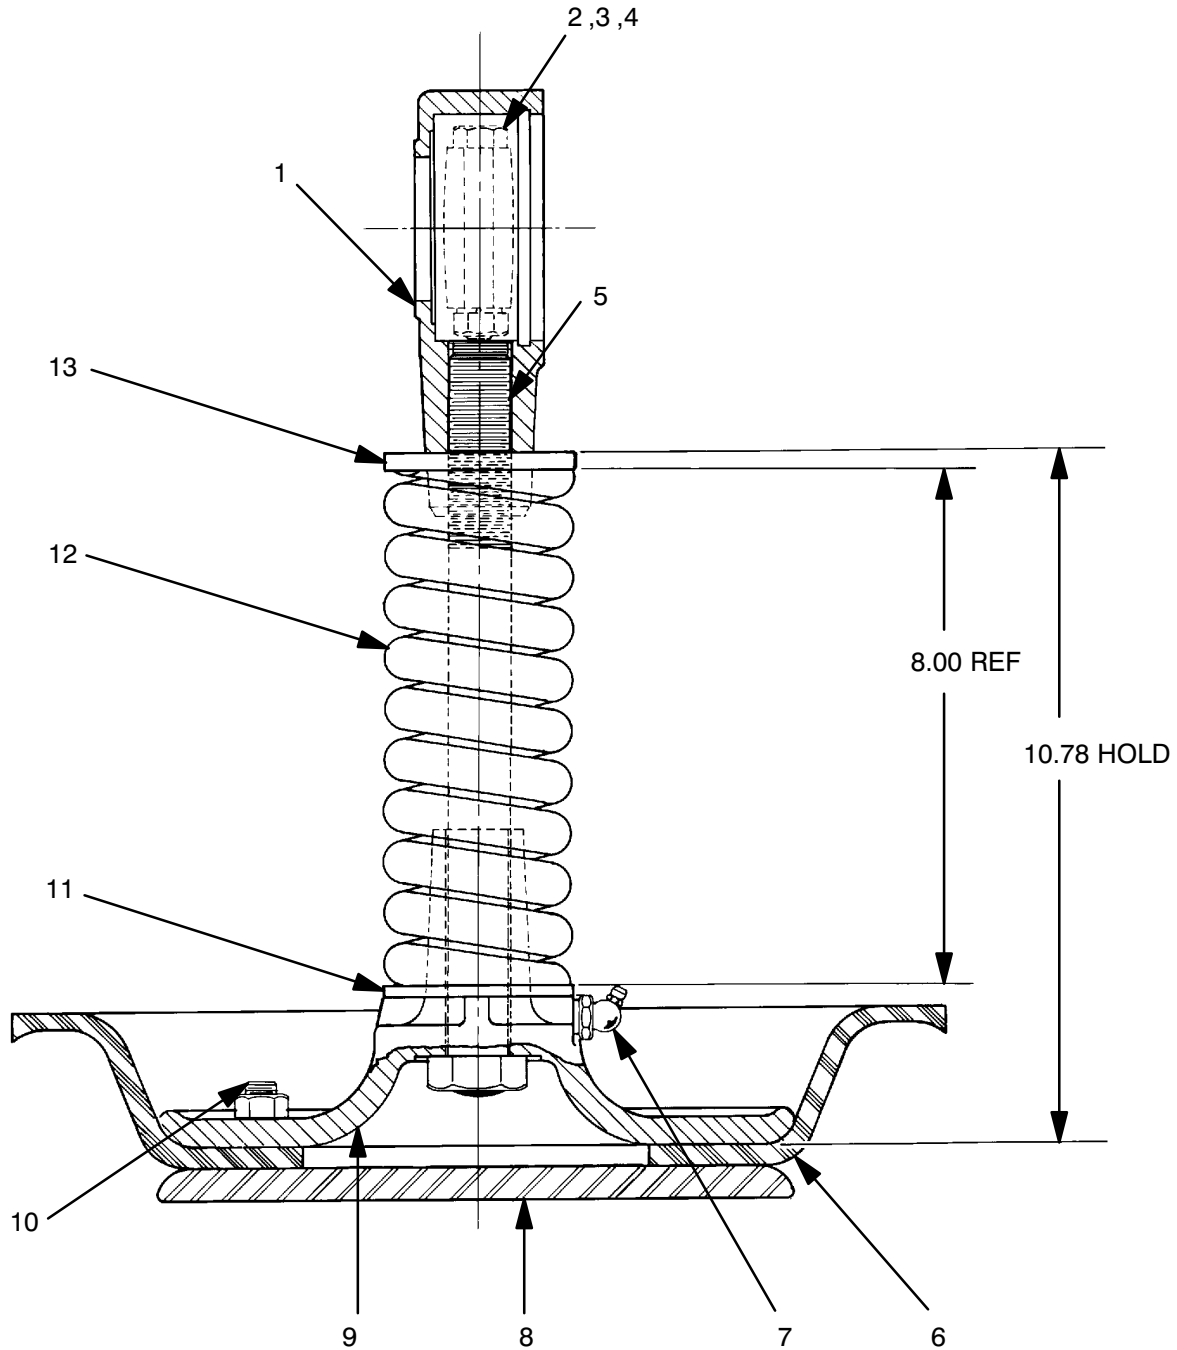

Figure 3. 6959 Plunger Rod Assembly
To remove the diaphragm (6, Figure 3), disengage the hardware (31, 32 and 33) and remove the diaphragm pot assembly (34). Inspect the diaphragm ring (23) for wear or damage. If replacement is required, the gearbox assembly (28) must be removed.
(Figure 3)